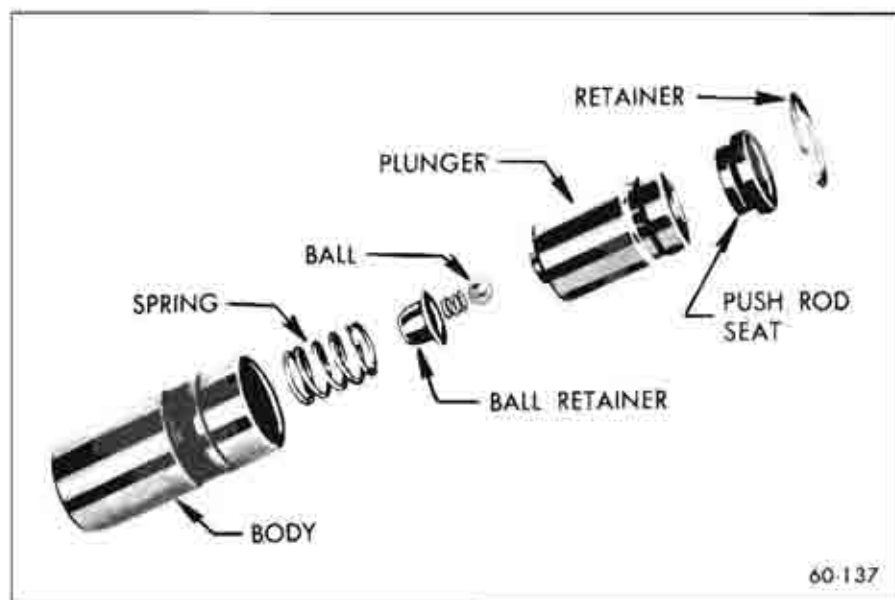

Figure 60-137—Hydraulic Valve Lifter Parts
15. Hold plunger in vertical position with feed hole up, then rinse and install the check ball, ball retainer, spring, and body over the plunger. See parts in Figure 60-137.